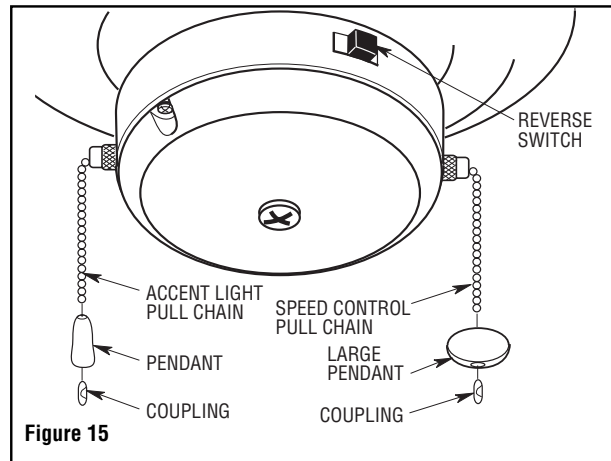

Figure 15
2. Slide the large pendant onto the the speed control pull chain, secure by connecting the coupling to the chain. Slide the pendant onto the accent light pull chain, secure by connecting the coupling to the chain. (Figure 15).
7. If airflow is desired in the opposite direction, turn the fan off and wait for the blades to stop turning. Then slide the reversing switch, located on switch cup, to the opposite position (Figure 15) and turn the fan on again. The blades will turn in the opposite direction and reverse the airflow.